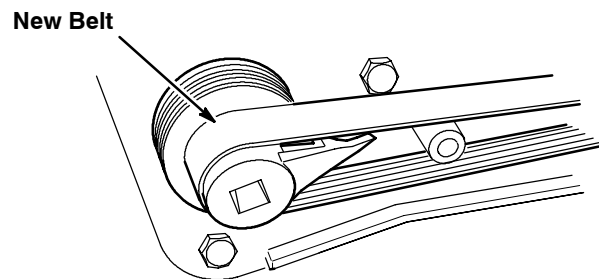

FIG. 2
**STEP 2:** Position new belt on tool as shown (Figure 2).